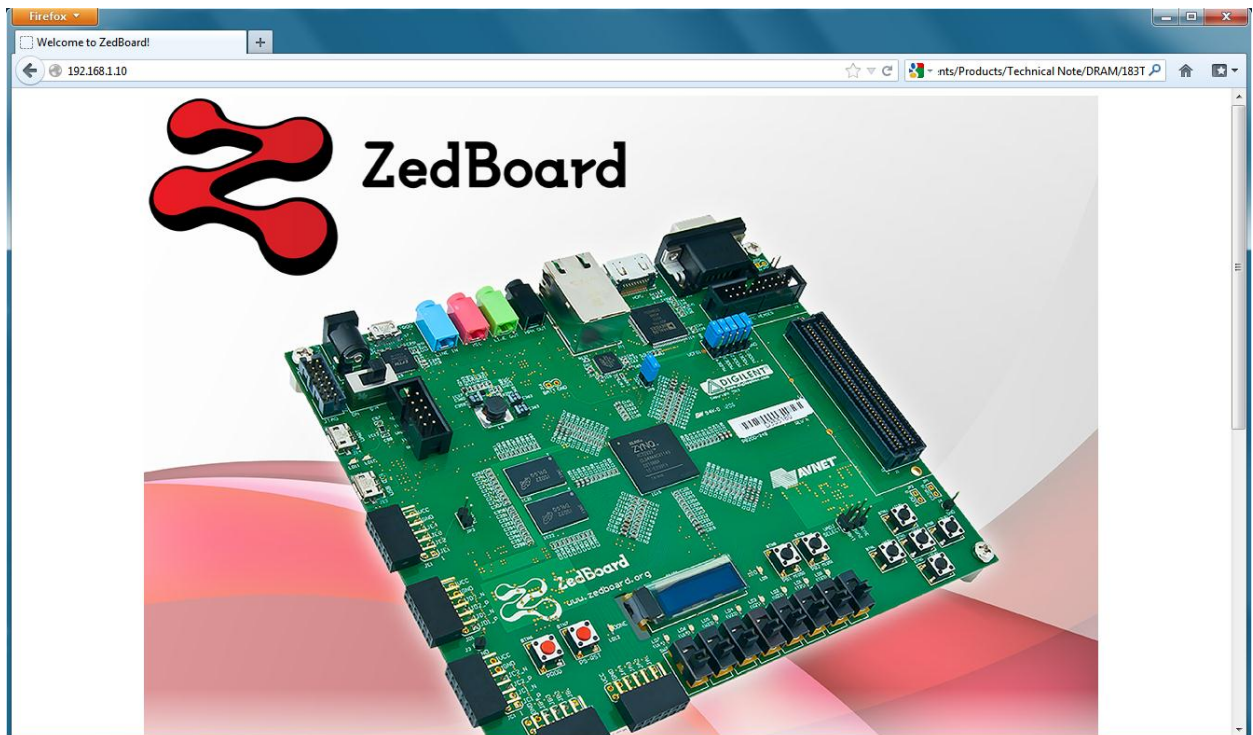

Figure 18 – ZedBoard Webpage Shown In PC Host Browser
- To view the ZedBoard embedded webpage, open a web browser (such as Firefox) and browse to the ZedBoard IP address <http://192.168.1.10> as the URL. The ZedBoard webpage should open in the browser to display as seen in Figure 18.